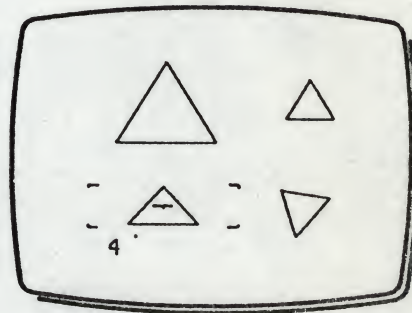

Fig 4
- 2 Release R when the cursor frame is proportioned as (4) in Fig 4, then rotate Z to alter the size, and move XY to position the cursor frame at (4).